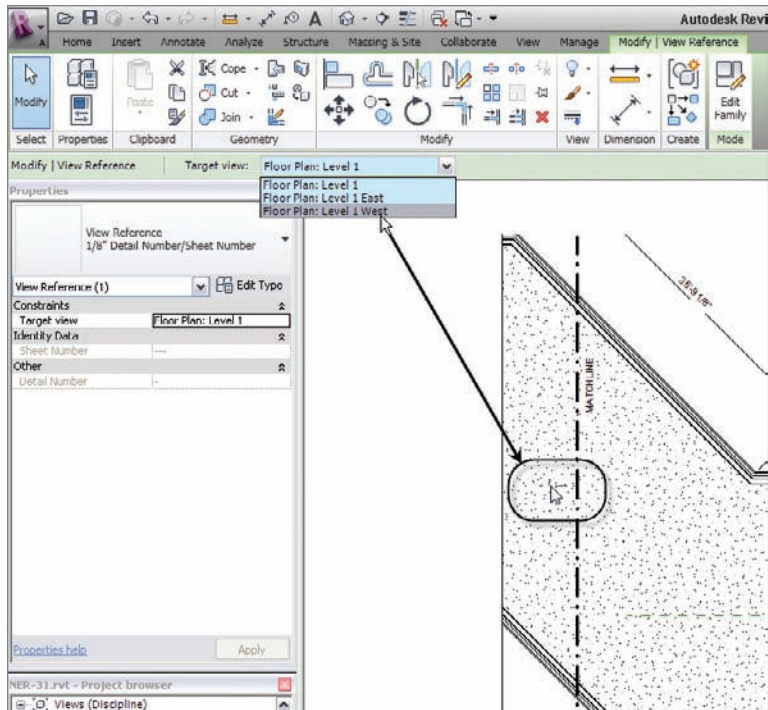

FIGURE 13.13 Adding a view reference includes choosing the correct target view from the Options bar.
8. Click the move grip, and drag the text over to the match line so it is positioned as shown in Figure 13.13.
10. On the Options bar, you will see a Target View menu. Make sure Floor Plan: Level 1 West is current, as shown in Figure 13.13.
11. Pick a point to the left of the match line (see Figure 13.13).